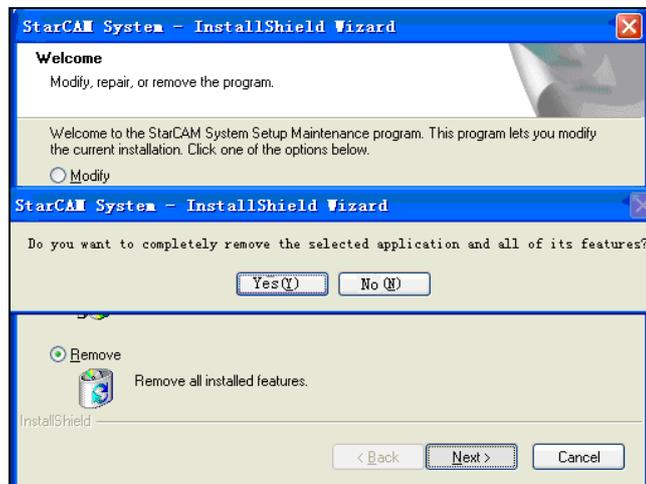

Figure 13
2. If selecting the single choice box “Modify” or “Repair”, click “Next”, then same as part of installation interfaces, part of files will be added or cancelled or files will be repaired. If selecting “Remove” and then clicking the button “Next”, the interface shown in Figure 13 will be entered.